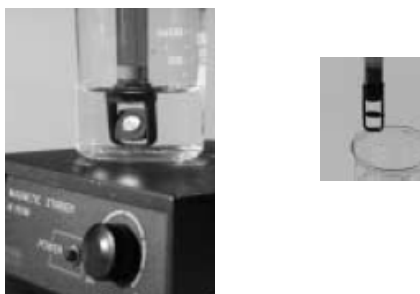

Figure 1
3. Slip the Microstirrer onto the bottom of the pH sensor. Slide the drop counter down the ring stand to a level such that the Microstirrer is very close to the bottom of the beaker. Tighten the turn screw of the drop counter to hold firmly in place (see Figure 1).